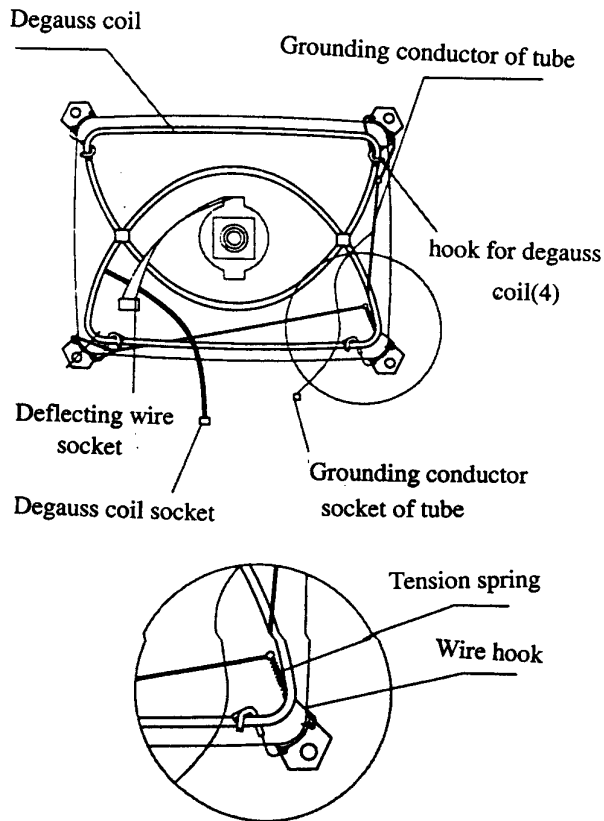

Fig. 2
4. Install the tube according to the inverse procedure of that mentioned above. properly install the degauss coil and grounding conductor of tube onto the tube as fig. 2 shown.